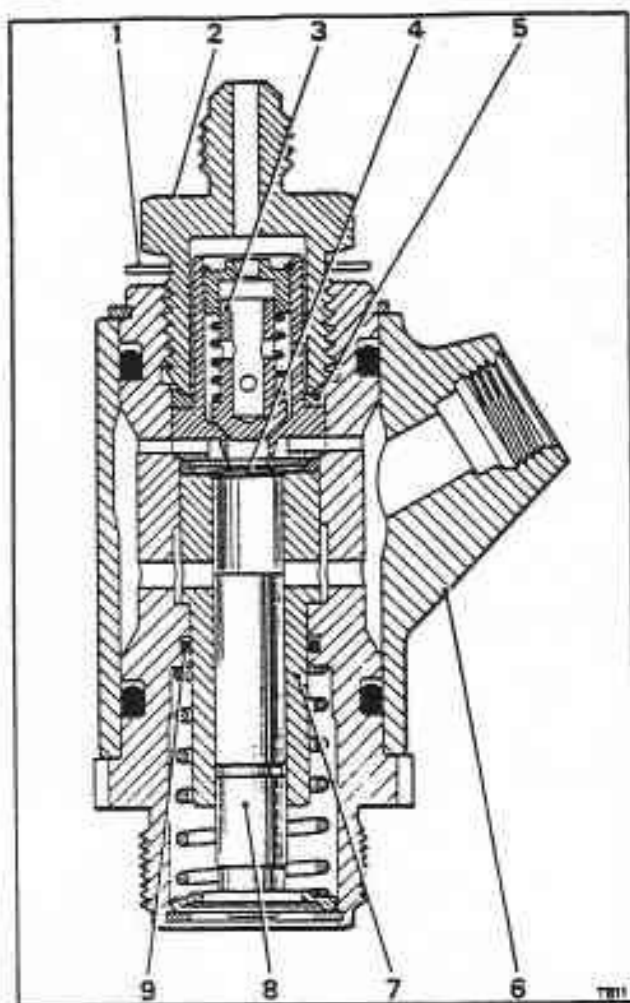

Fig. G6-3 Hydraulic pump
### Hydraulic pump housing sealing rings - To renew (see figs. G6-3, G6-4, and G6-5)
The following procedures apply to the type of pump fitted with a top adapter (see fig. G6-3 and G6-5) and not the staked type of pump.
**Hydraulic pump - To assemble (refer to figs. G6-3 and G6-5)**